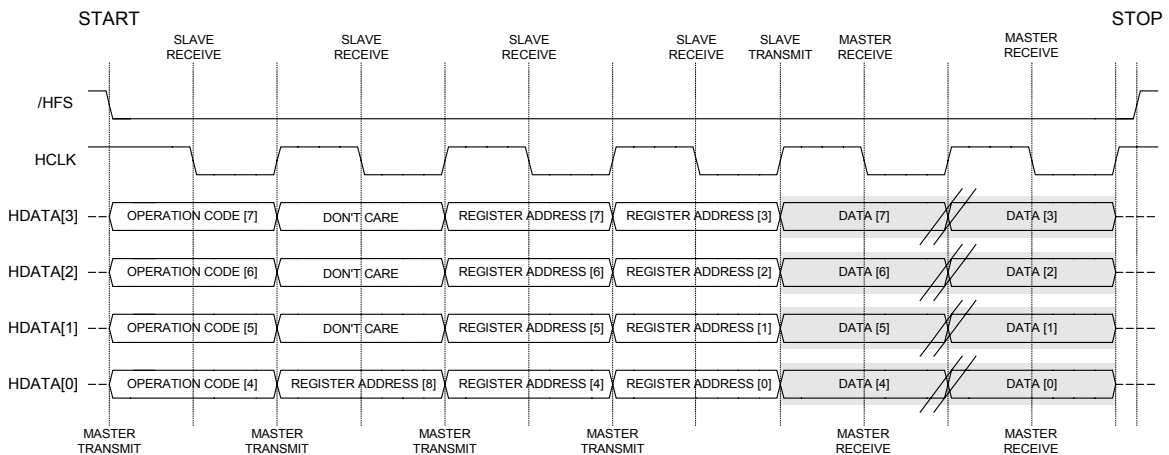

Figure 31. 6-Wire Read Operations (0x9x & 0xAx)
- Read operations can be performed in one transfer without a re-start cycle and re-send of the device address before data is sent from the slave device. Data is sent in the byte immediately following the instruction or address. Figure 31 shows the equivalent operation for the Read Address Increment transfer.